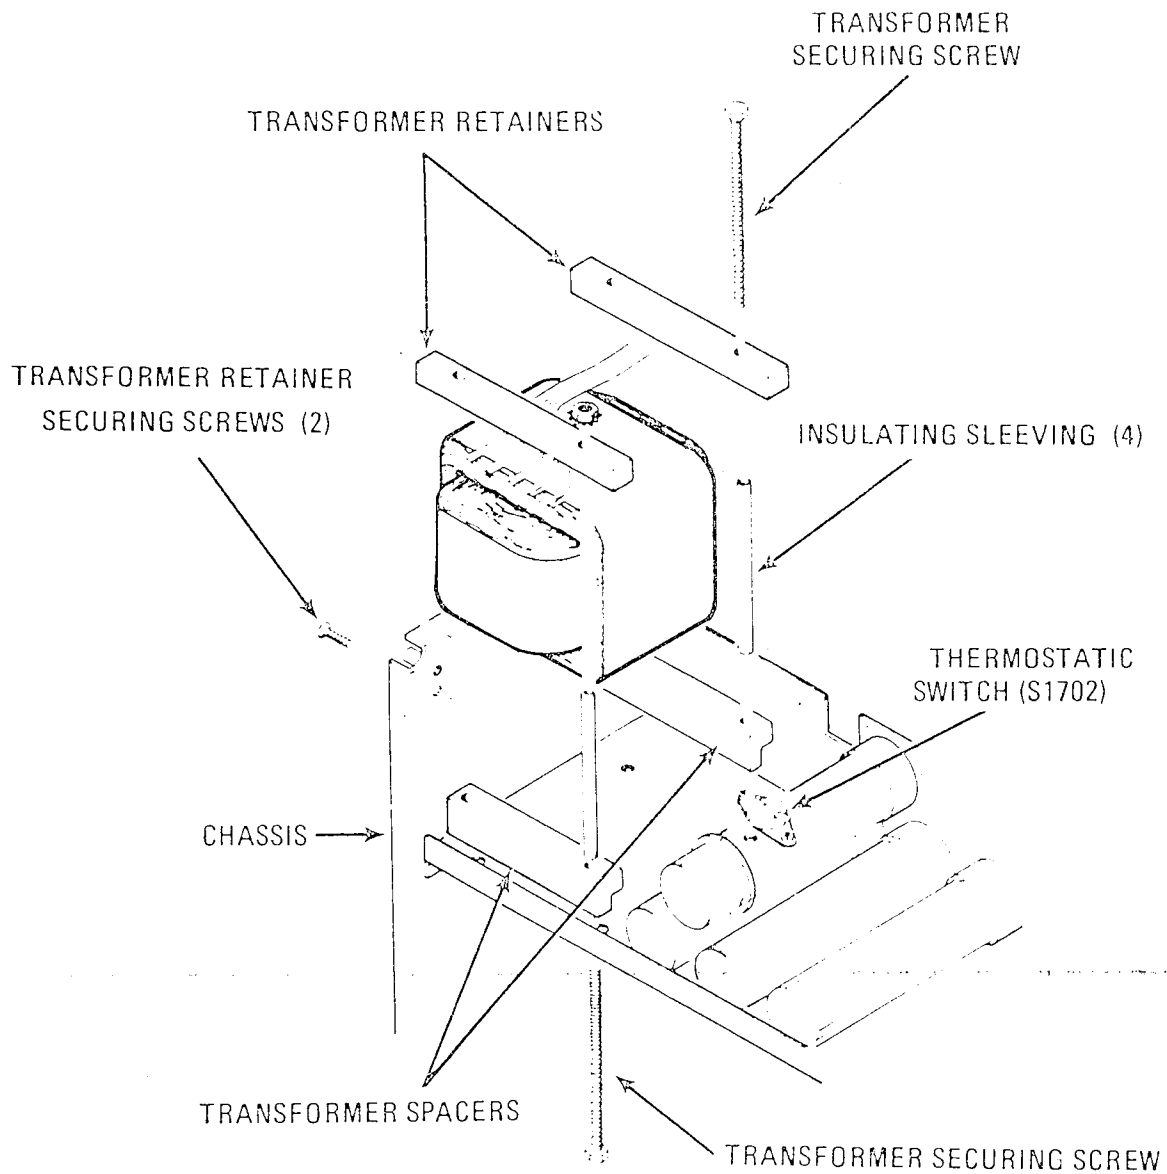

Fig. 1. Location of thermostatic switch (S1702) and adjacent parts
Refer to Figure 1 for location of parts mentioned in the following procedures.
- () 2. Remove the old spacers and install the new transformer spacers (from the kit) as shown in Fig. 1.